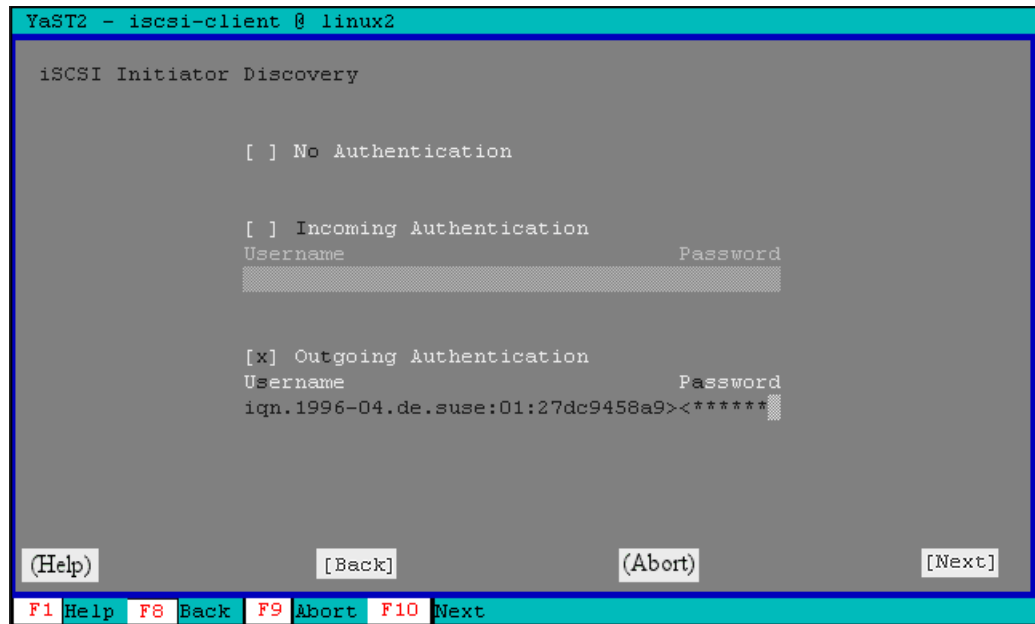

Figure 20-22 Select Next
- Configure the authentication settings as in step 6) and select Next to continue as shown in Figure 20-22.